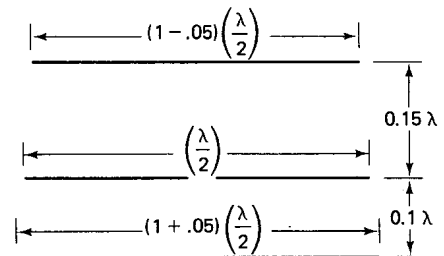

Fig. 6-25
- 6.13 Design a beam antenna consisting of a dipole, one reflector, and one director. Assume a velocity coefficient of 0.90. The antenna is to be cut for a frequency of 150 MHz. See Fig. 6-25.